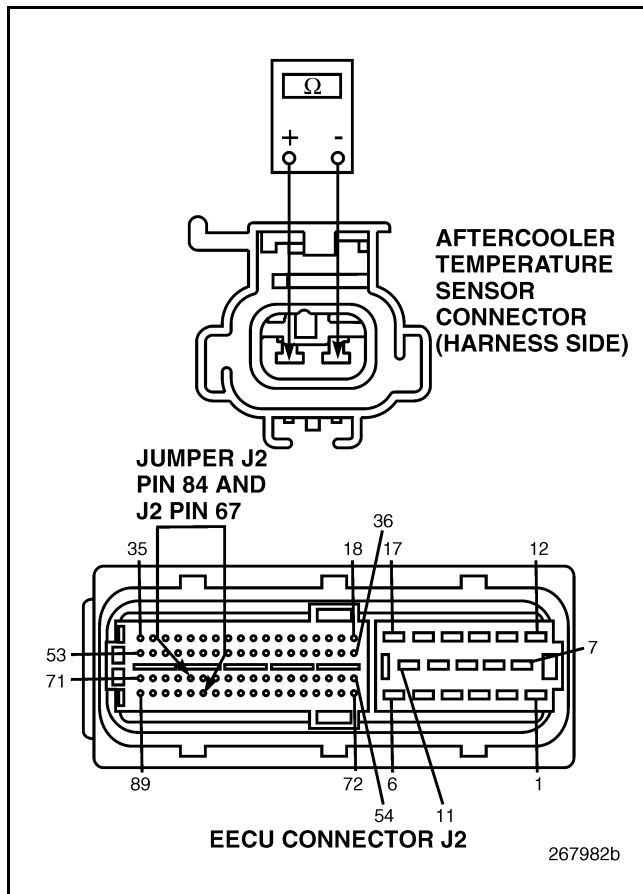

Figure 798
4. Connect a jumper between EECU harness connector J2 pins 67 and 84 (see Figure 798).